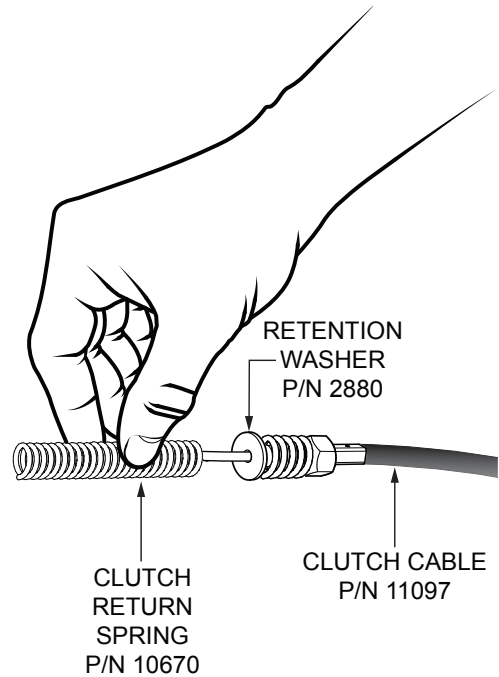

Figure 32. Clutch Return Spring Placement
- Place the clutch return spring (P/N 10670) onto the end of the clutch cable (P/N 11097). See Figure 32.